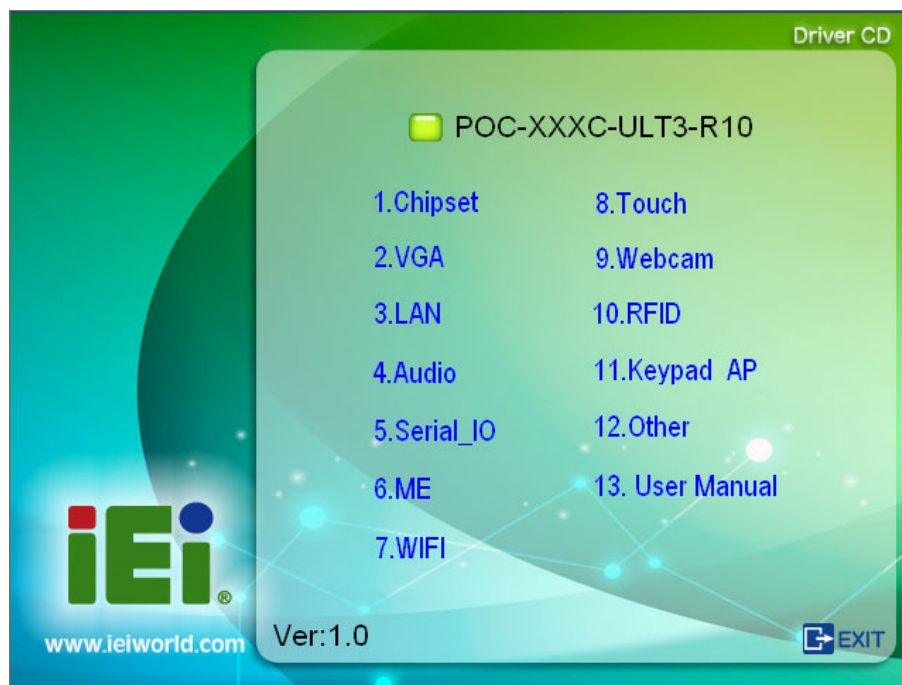

Figure 5-1: Available Drivers
Step 2: The driver main menu with a list of available drivers appears (**Figure 5-1**).